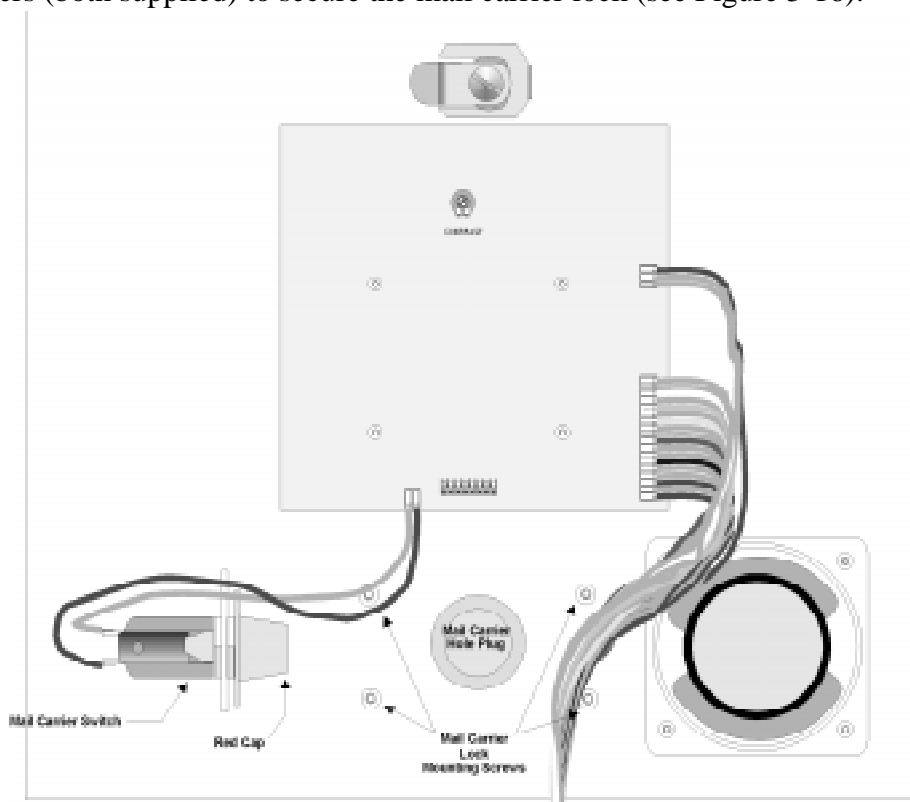

Figure 3-16: Inside view of 5073/5074 Control Panel
2. Install the lock on the 4 posts on the inside of the door. Use the the #8-32 nuts and lock washers (both supplied) to secure the mail carrier lock (see Figure 3-16).
3. Remove the red cap from the mail carrier lock button. (See Figure 3-16 for red cap location.)
2. Install the lock on the 4 posts on the inside of the door. Use the the #8-32 nuts and lock washers (both supplied) to secure the mail carrier lock. (See Figure 3-16.)
3. Remove the red cap from the mail carrier lock button. (See Figure 3-16.)